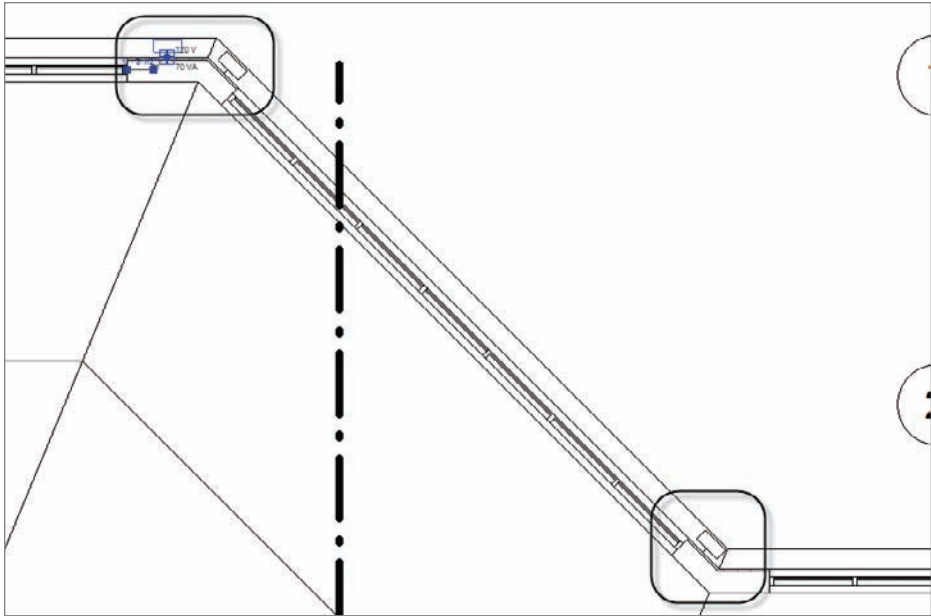

FIGURE 19.8 Placing the exterior lights
7. Place the lights at the locations shown in Figure 19.8.